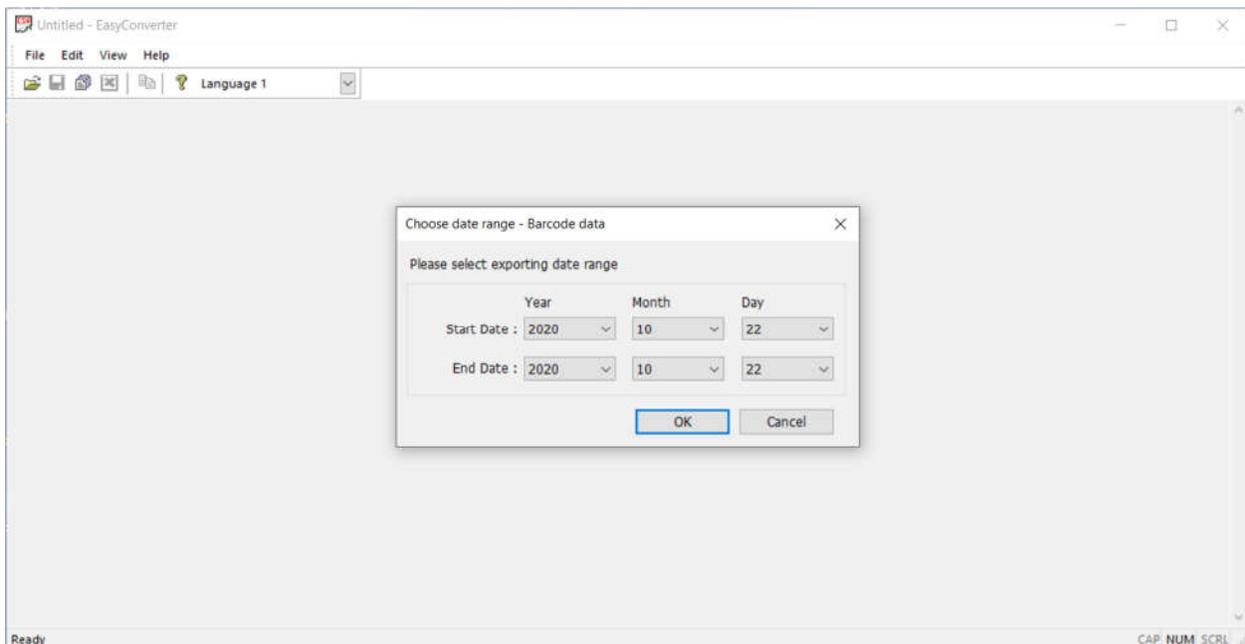
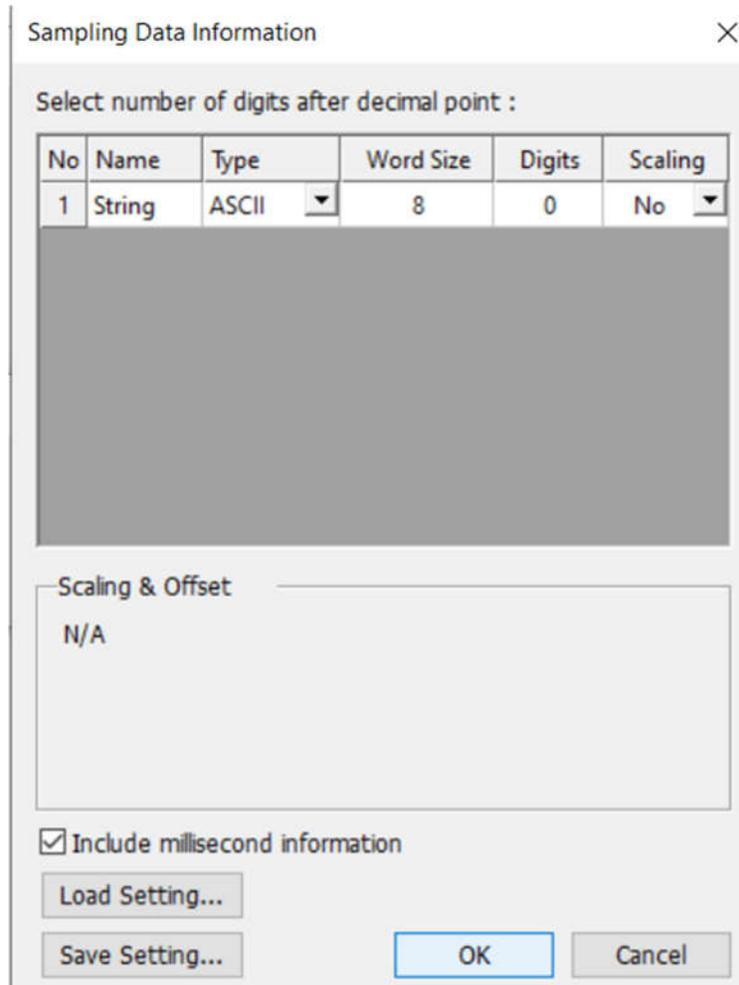

Fig. 29 Setting the date range
Fig. 30 Data configuration
11. Once the file has been selected for conversion the screen shown in fig. 29 will be displayed. This is a date sorting function that allows the user to select a range of data based upon the date. Set the range to convert and press “ok”. This will open the screen shown in fig.30.
12. Make sure that the Name, Type, Word Size, Digits, and Scaling columns match with what is shown in fig. 30. Also make sure that the “Include millisecond information box is **NOT** checked.